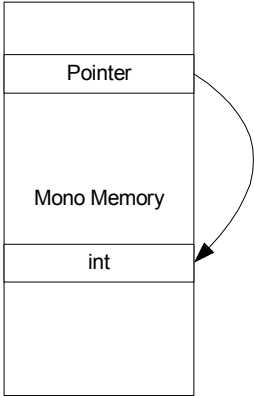

Figure 17.Representation of mono int * mono
- Figure 17 shows how `int *` (that is, `mono int * mono`) can be visualized.